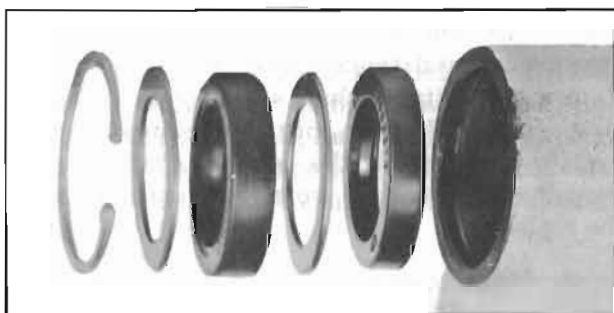

Figure 8-23—Pitman Shaft Seal Assembly
4. Lubricate the seals thoroughly with petroleum jelly and install as per paragraph 8-12 step 7. See Figure 8-23.